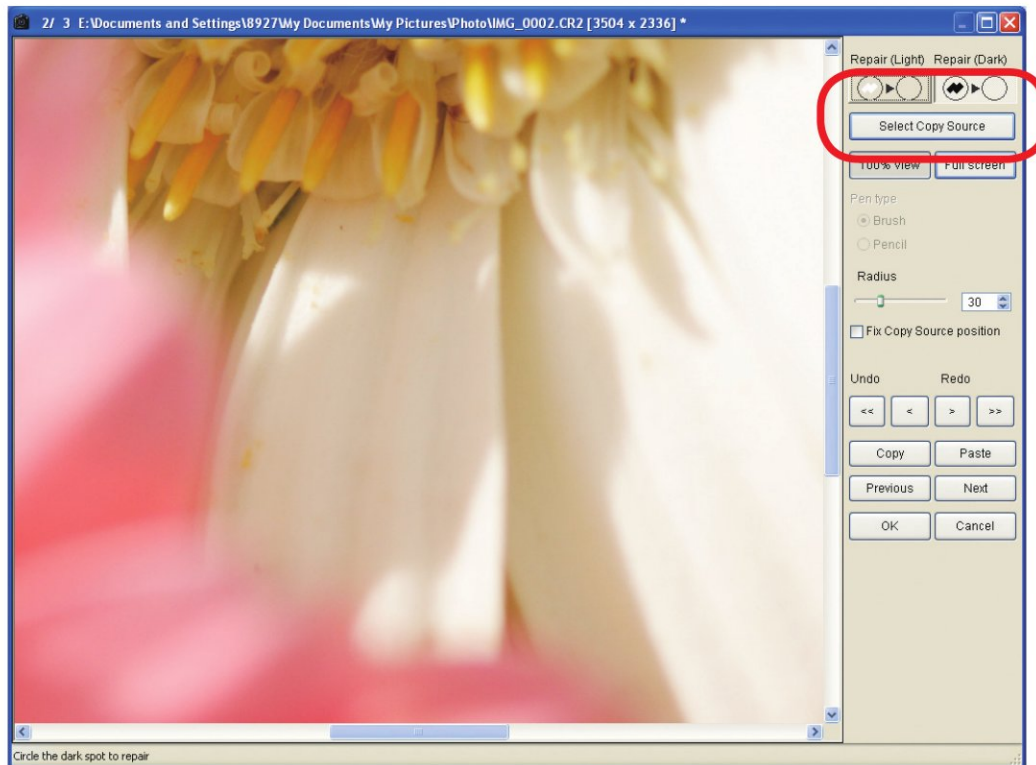

Fig. 020 Copy Stamp window
- In addition to the Copy Stamp function provided in version 1.6, the Repair function that is a semi-automated image cleanup function has been added that uses the FARE technology developed for Canon's flatbed scanners (Fig. 020/highlighted in red frame). This is a fast and effective cleanup tool that allows the user to have sections of scanned images that contain stains or dust flecks instantly corrected simply by specifying the affected areas.